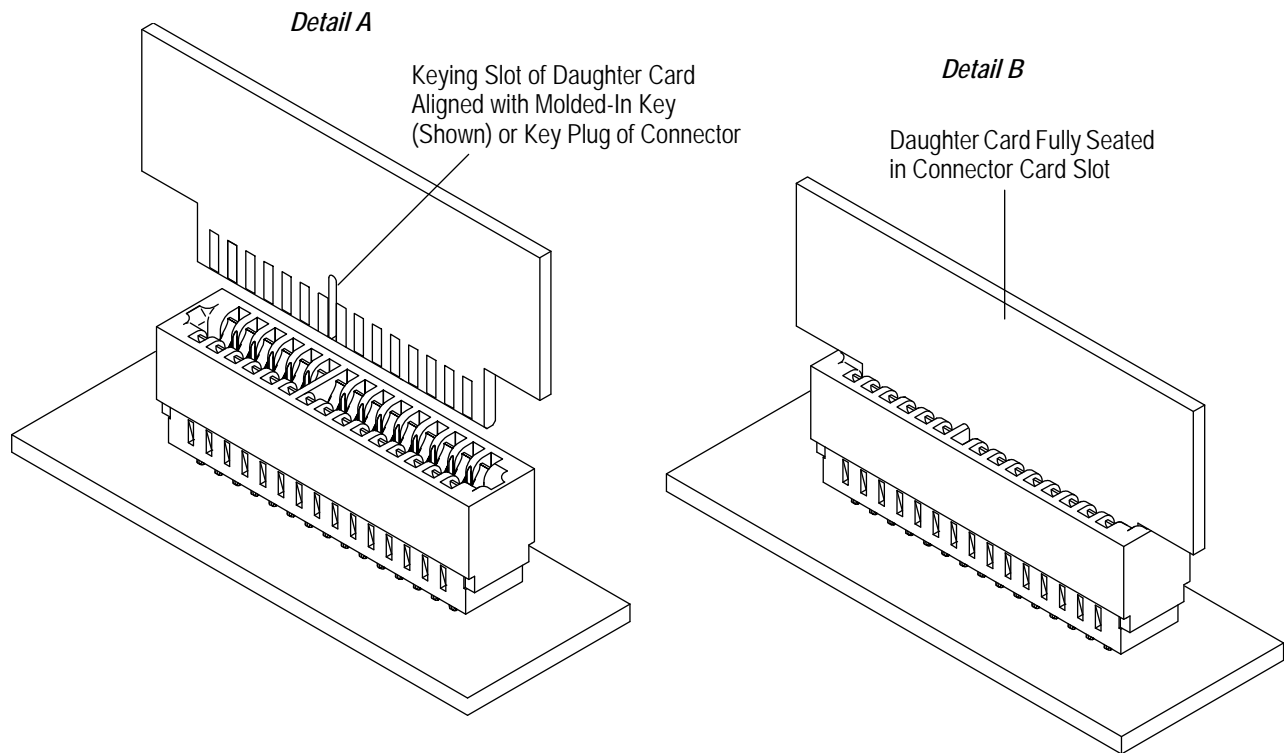

Figure 8
1. For connectors with a key plug, the keying slot of the daughter card must be aligned with the key plug. For connectors with a molded-in key, the keying slot of the daughter card must be aligned with the molded-in key. Refer to Figure 8, Detail A.
2. The daughter card must be inserted straight into the connector card slot until the card is fully seated. See Figure 8, Detail B.